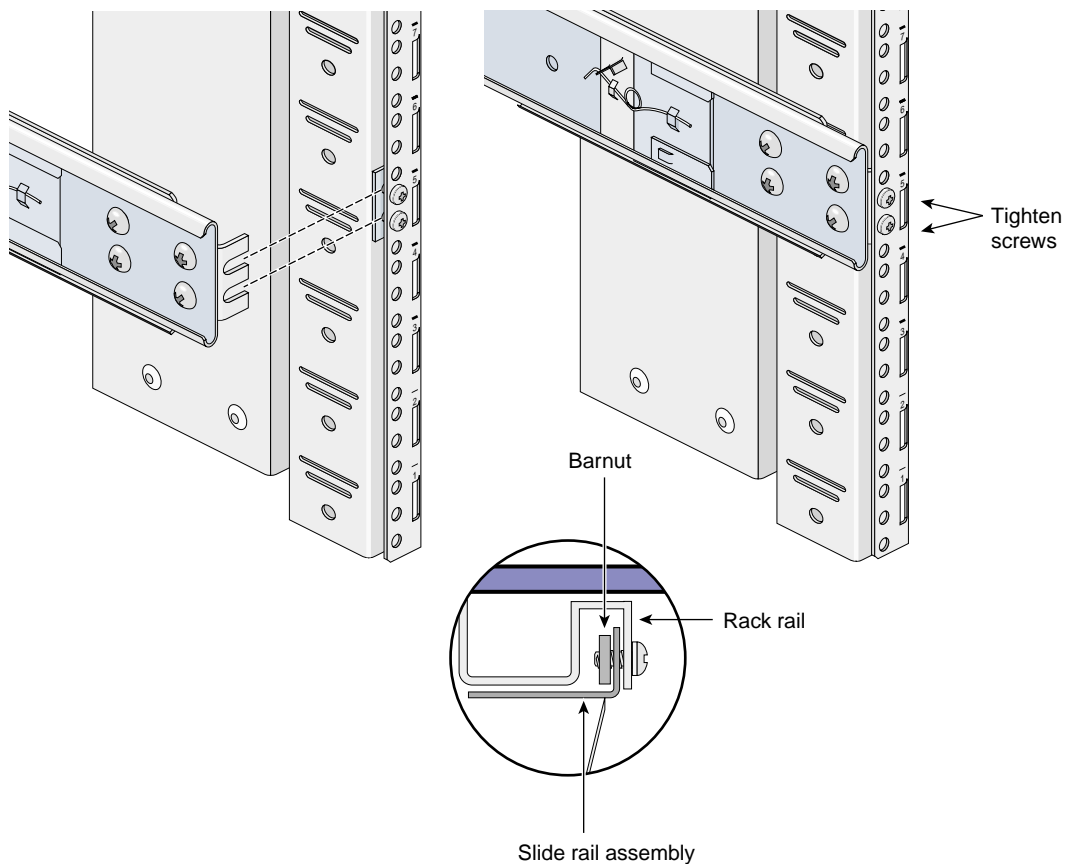

Figure 1-17 Attaching the Slide Rail to the Rack
5. Insert the front and rear brackets of one of the slide rails between the rack rails and the barnuts, as shown in Figure 1-17.